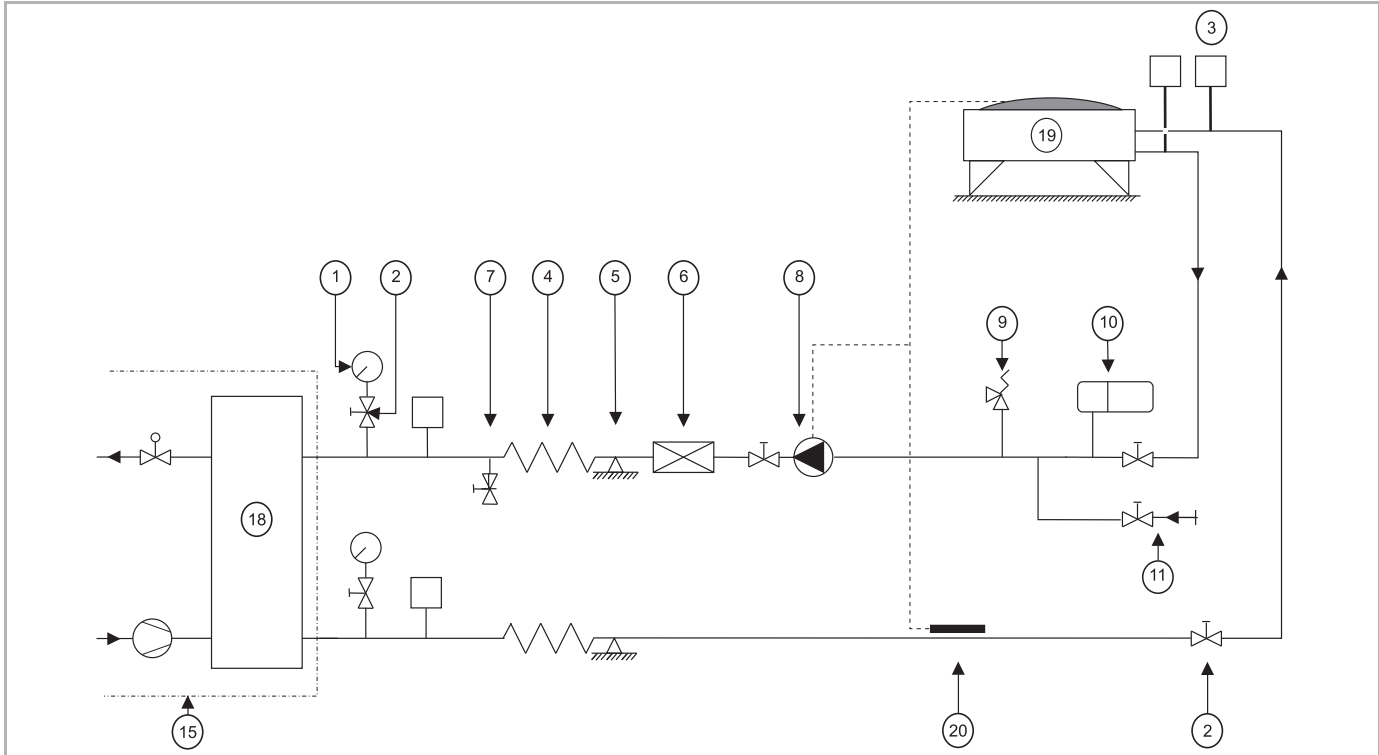

Fig. 15: Heat rejection circuit with cooling water pump with speed control and/or speed control of the heat rejection unit
*Possibility 2:* – Option 2 should be implemented if, despite the speed control of fan motors resulting from e.g. a year-round unit operation, the minimum cooling water temperature can not be ensured. In this case using a cooling water pump depending on the cooling water outlet temperature is possible if the limits for minimum and maximum water volume flow through condenser are adhered to (refer to Fig. 15 on page 54). As an option regulation of the field-provided pump speed control with a 0-10 volt signal is available (option .E37).